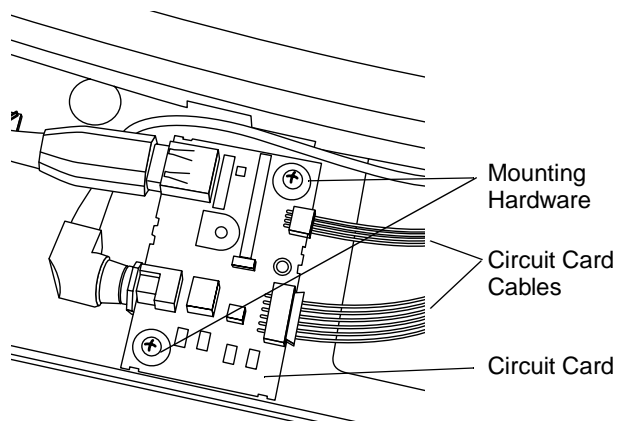

Figure 2. Mounting the Circuit Card
4. Secure the circuit card to the two standoffs, using the two silver screws and the two washers, with the washers positioned between the screws and the circuit card (reference Figure 2).